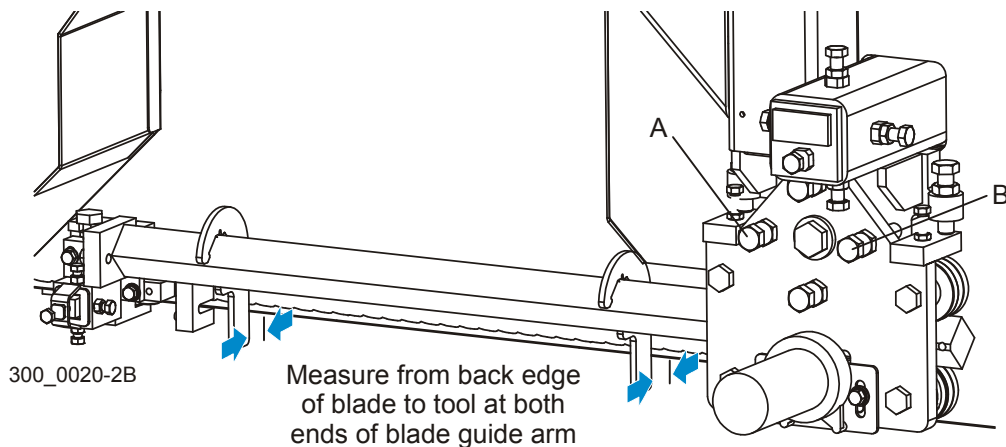

FIG. 7-13
See Figure 7-13. Attach the blade guide arm alignment tool to the blade guide arm, near the outer blade housing. Measure the distance from the back edge of the blade to the tool. Move the tool to the end of the arm near the blade guide. Measure again from the back edge of the blade to the tool. The two measurements at each end of the arm should be the same within 1/32". To adjust the horizontal tilt of the arm parallel to the blade, adjust the bolts (A & B) on the blade guide arm mounting plate. Loosen the jam nuts. Adjust bolt (A) out and bolt (B) in to move the arm away from the blade. Adjust bolt (B) out and bolt (A) in to move the arm toward the blade. Recheck the distance from the back edge of the blade to the tool at both ends of the arm. Readjust if necessary. Tighten the jam nuts.